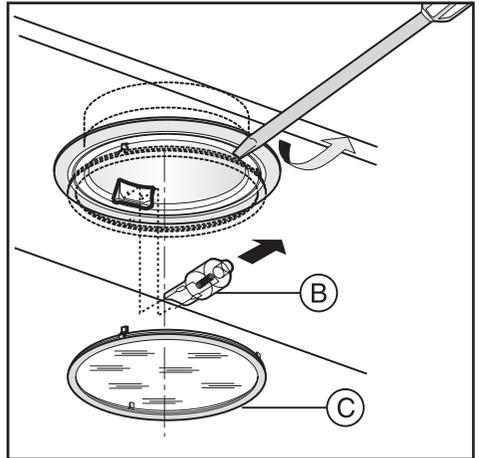

Fig.7
• **Replacing halogen light bulbs (Fig.7):**